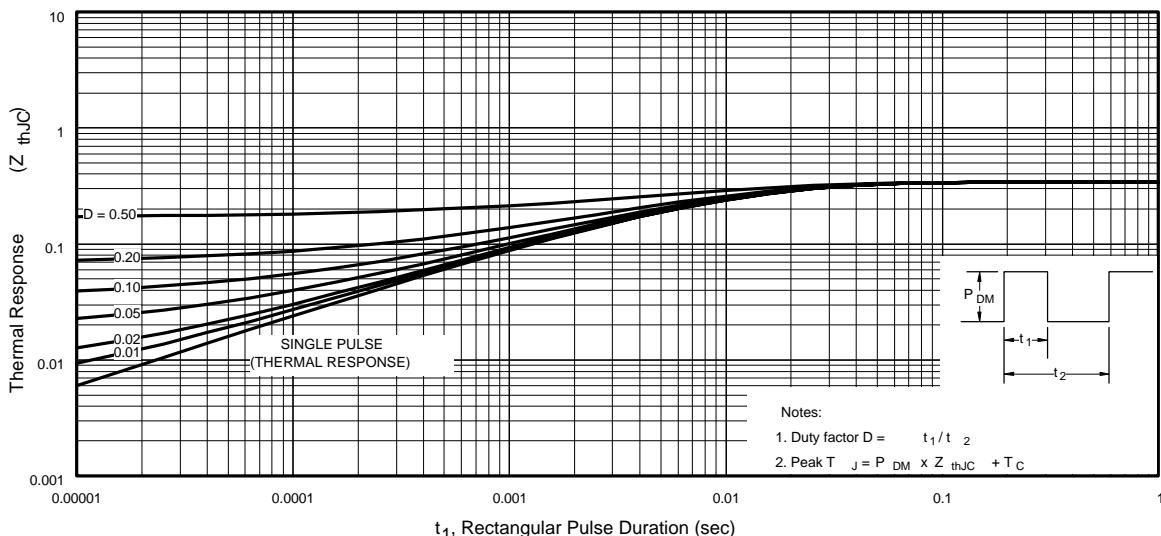
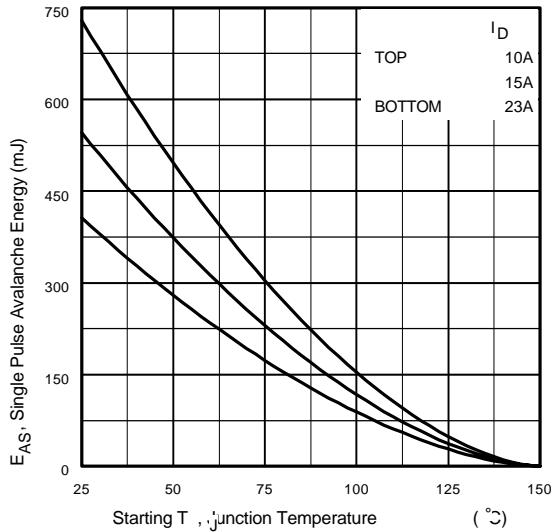

Fig 11. Maximum Effective Transient Thermal Impedance, Junction-to-Case
Fig 12a. Maximum Avalanche Energy Vs. Drain Current
- ① Repetitive rating; pulse width limited by max. junction temperature. (See Fig. 11)
- ② Pulse width $\leq 300\mu\text{s}$; duty cycle $\leq 2\%$.
- ③ Starting $T_J = 25^\circ\text{C}$, $L = 1.5\text{mH}$, $R_G = 25\Omega$, $I_{AS} = 23\text{A}$, $dV/dt = 14\text{V/ns}$ (See Figure 12a)
- ④ $C_{oss \text{ eff.}}$ is a fixed capacitance that gives the same charging time as C_{oss} while V_{DS} is rising from 0 to 80% V_{DSS}
- ⑤ $I_{SD} \leq 23\text{A}$, $di/dt \leq 430\text{A}/\mu\text{s}$, $V_{DD} \leq V_{(\text{BR})\text{DSS}}$, $T_J \leq 150^\circ\text{C}$